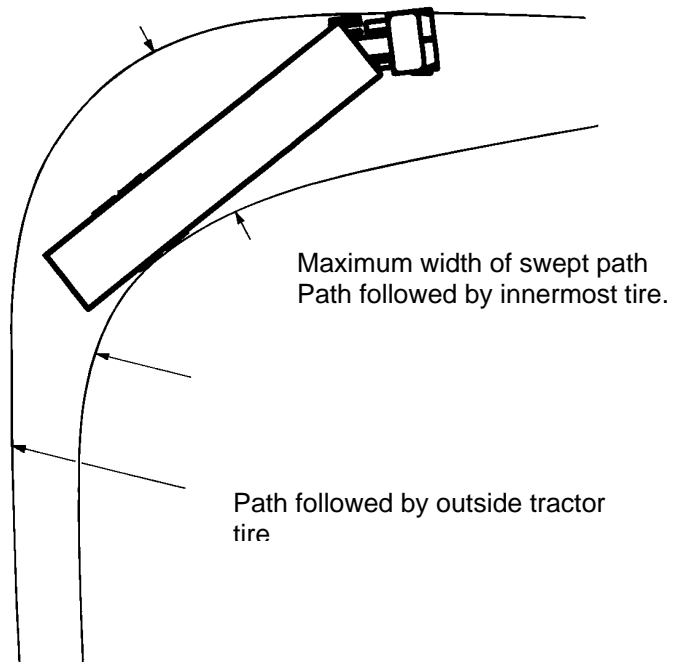
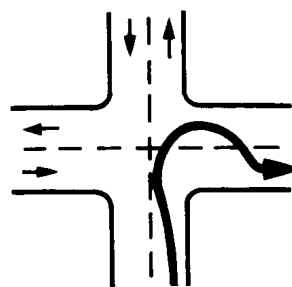

Figure 6-4
Figure 6-5
different path than the front wheels. This is called **offtracking** or "cheating." Figure 6-4 shows how offtracking causes the path followed by a tractor-semi to be wider than the rig itself. Longer vehicles will offtrack more. The rear wheels of the powered unit (truck or tractor) will offtrack some, and the rear wheels of the trailer will offtrack even more. If there is more than one trailer, the rear wheels of the last trailer will offtrack the most. Steer the front end wide enough around a corner so the rear end does not run over the curb, pedestrians, other vehicles, etc. However, keep the rear of your vehicle close to the curb. This will stop other drivers from passing you on the right. If you cannot complete your turn without entering another traffic lane, turn wide as you **complete the turn** (Figure 6.5). This is better than swinging wide to the left before starting the turn because it will keep other drivers from passing you on the right. If drivers pass on the right, you might collide with them when you turn.
5. Why should you turn like it shows in Figure 6-5?